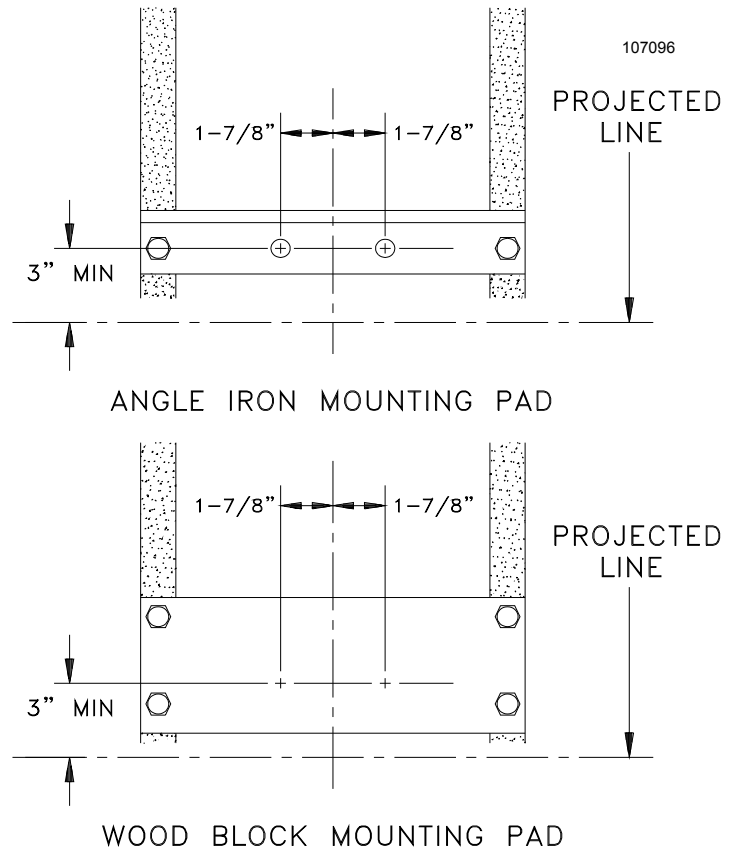

Figure 7
- 3) Using the projected lines for location, mount a suitable wood block or angle iron, depending on the structure of the building, to the wall above the door opening as shown in Figure 7. Ensure the block or angle iron used will provide a sound and secure mounting pad for the operator rail front mounting bracket, see **CAUTION** warning below.